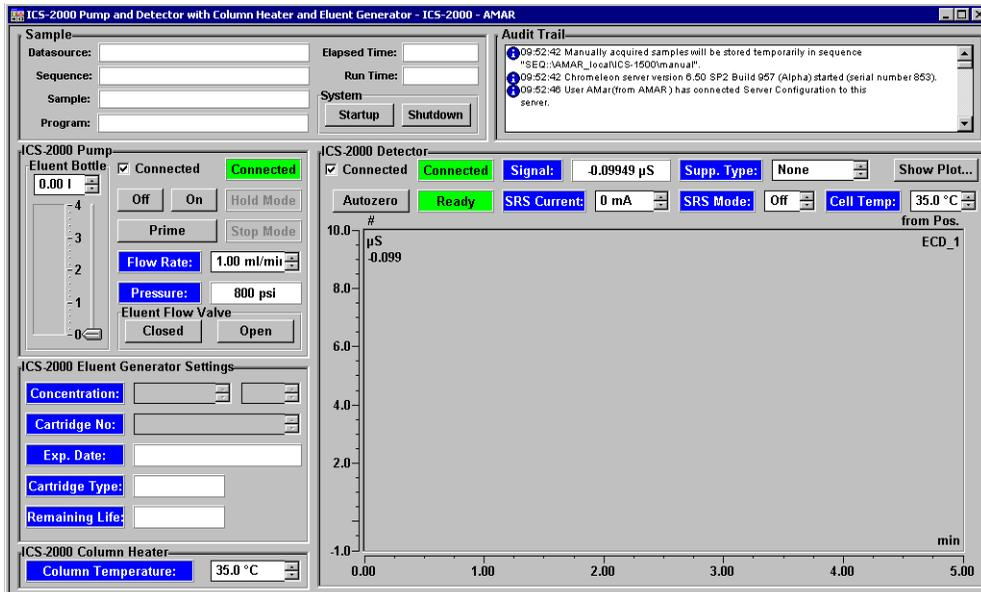

Figure 2-12. ICS-2000 System Control Panel (Traditional)
- Traditional system panels (see Figure 2-12) provide controls on a single window with minimal graphics.